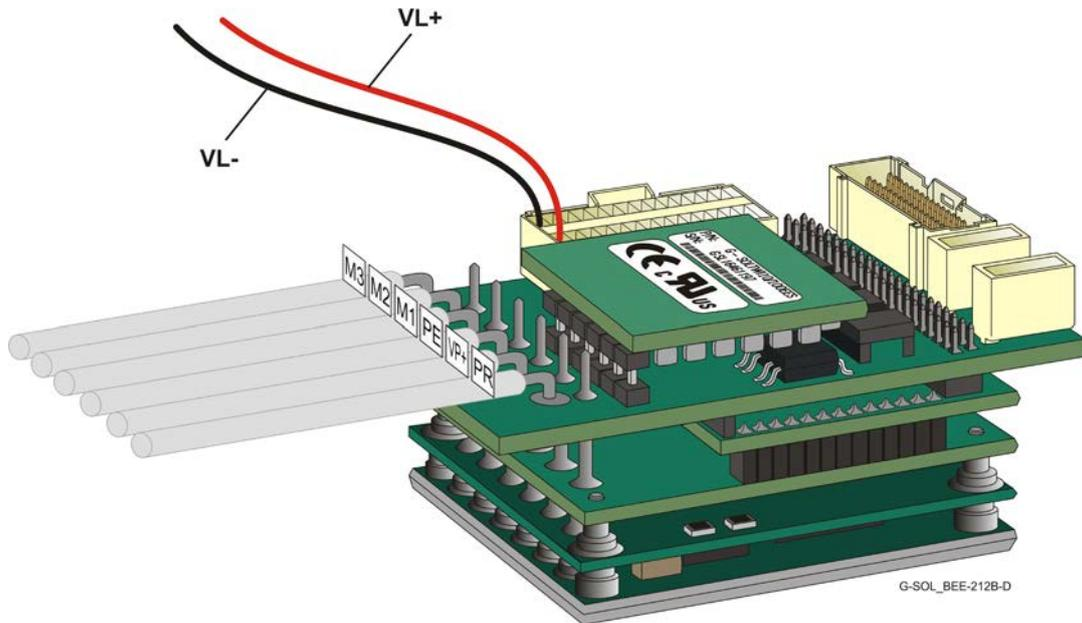

Figure 12: Connecting the Control Supply Wires
3. Connect the VL+ and VL- wires to the terminals on the servo-drive as shown in Figure 12.